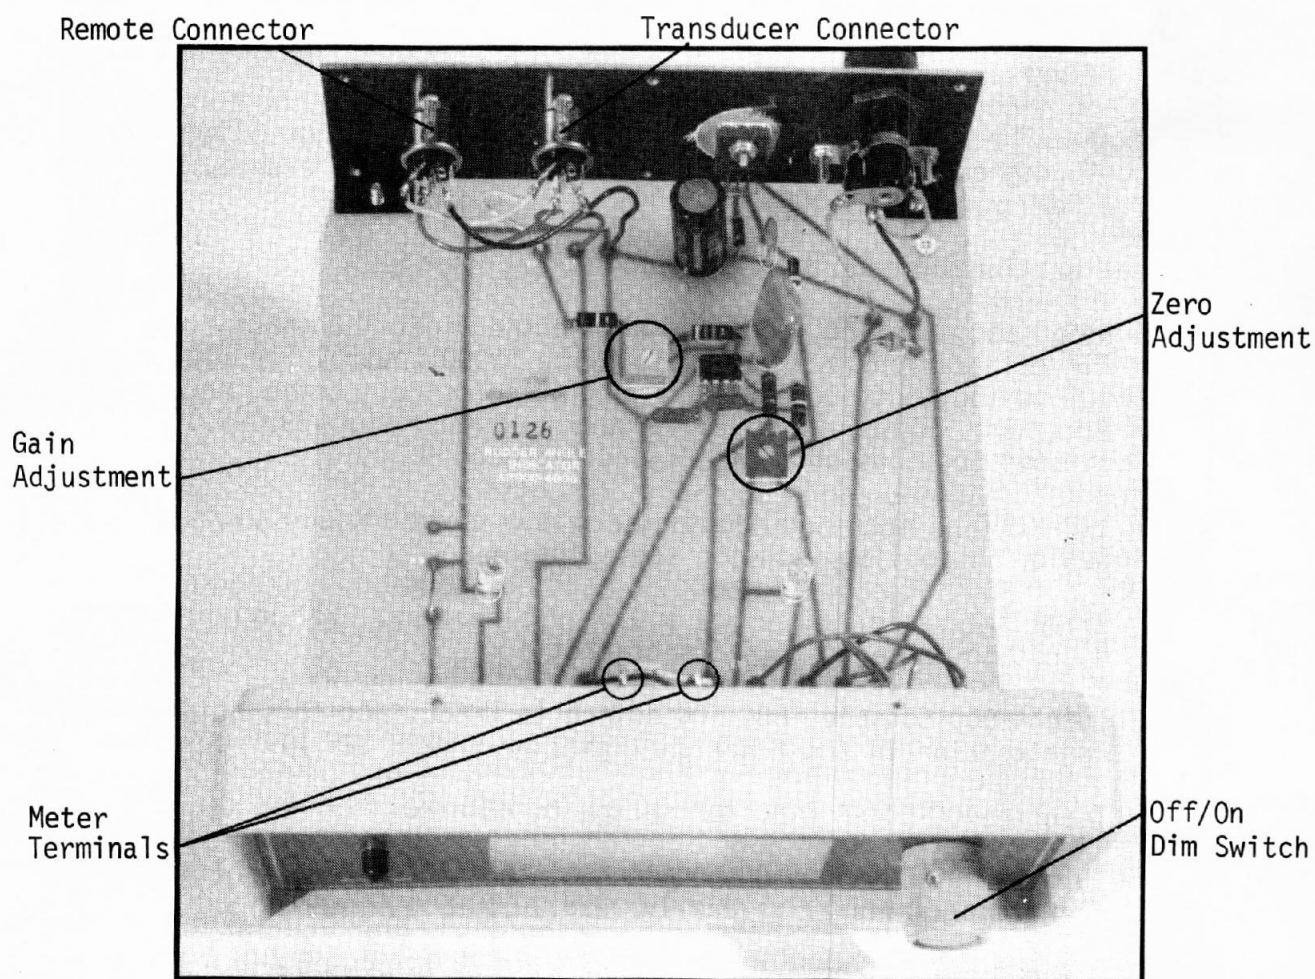

FIGURE 63. RUDDER ANGLE INDICATOR CIRCUIT BOARD
3. To calibrate the RAI, take the RAI console out of its enclosure by removing 8 screws. Pull the RAI partially out of the enclosure, exposing the 2 adjustment pots shown in Figure 63. Check to make sure the rudder is amidships. Adjust "zero" pot on RAI circuit board for a 0 meter reading. Turn the wheel starboard until the rudder is approximately 35 degrees angle. Adjust GAIN pot on RAI circuit board for a 35 degree meter reading.
4. At this point make sure the meter needle swings in the correct direction. If the meter reads in the port direction, TURN THE RAI OFF. Then simply switch the 2 wires coming from the circuit board up to the meter terminals. BE SURE RAI IS TURNED OFF when making this change (Figure 63).